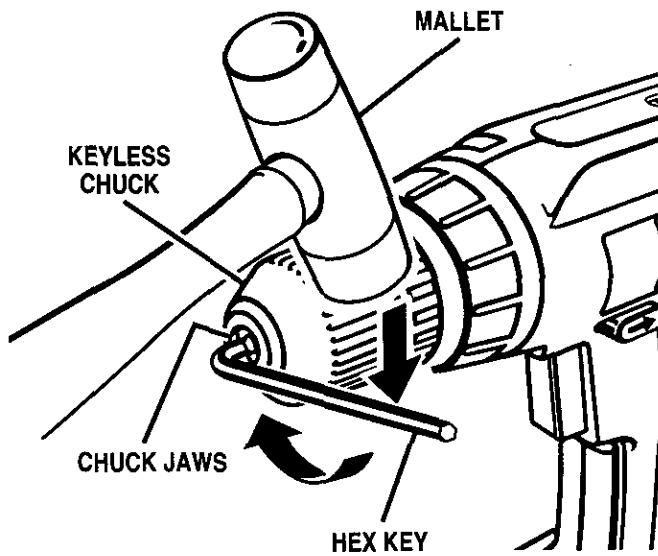

Fig. 10
See Figures 10, 11, and 12.
- Tap the hex key sharply with a mallet in a clockwise direction. See Figure 10. This will loosen the screw in the chuck for easy removal.